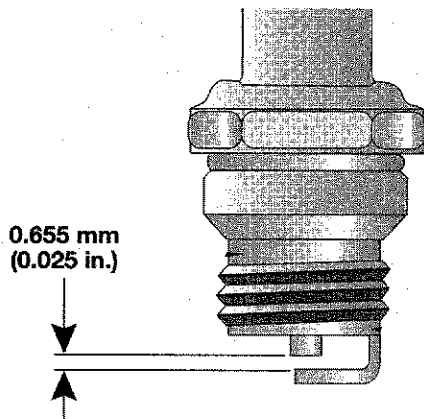

Fig. 55
3. Replace cracked, fouled or dirty spark plug. Set the air gap at 0.655 mm (0.025 in.) using a feeler gauge (Fig. 55).